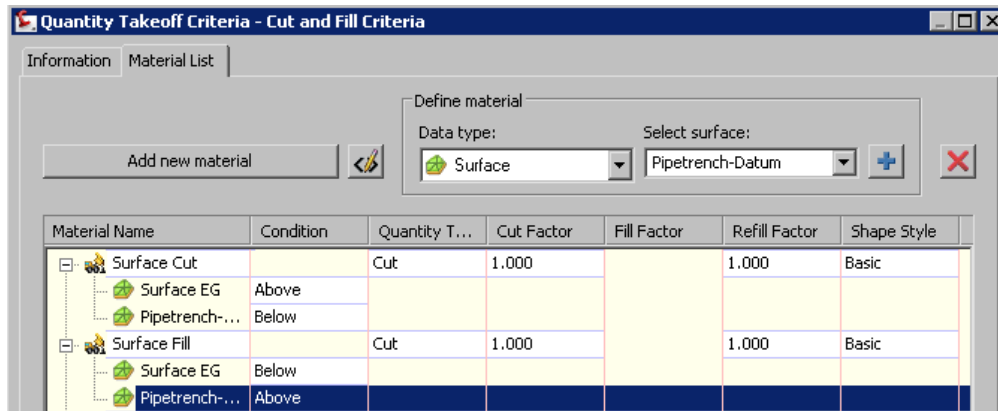

Figure 9-52 Partial view of the *Quantity Takeoff Criteria - Cut and Fill Criteria* dialog box
15. Set the condition for the surfaces in the **Quantity Takeoff Criteria - Cut and Fill Criteria** dialog box, as shown in Figure 9-52.